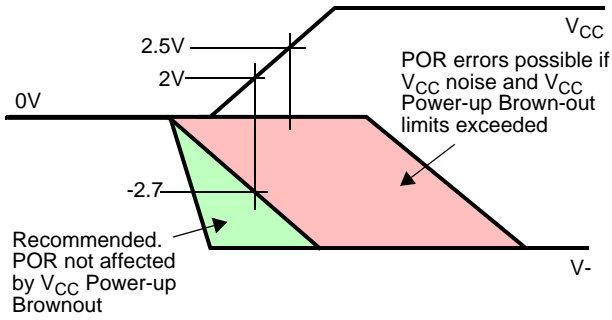

FIGURE 4. $V-/V_{CC}$ POWER-ON TIMING
6. V₋ should be at least -2.7V as V_{CC} reaches 2V. If not, the POR circuit is more susceptible to V_{CC} noise and V_{CC} power-up brown-out conditions. See Figure 4.